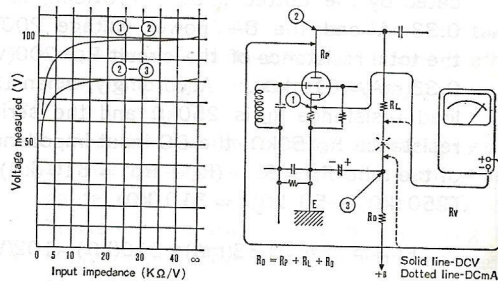

Fig. 3 Voltage measurement & input impedance.
5.1.3 When measuring a voltage, the combined resistance where the tester is connected decreases subject to the input impedance of the voltage range used. (Fig. 3)
The overall input impedance of a tester is indicated on the instrument. It is $10\text{k}\Omega$ per volt DCV for the **K-30DII**, and the input impedance of its 250V range is known to be $10(\text{k}\Omega/\text{V}) \times 250(\text{V}) = 2.5(\text{M}\Omega)$. In other words, the current the circuit supplies and the tester consumes is: $1(\text{V})/10(\text{k}\Omega) = 100(\mu\text{A})$ full scale. Therefore, as Fig. 3 shows, the less the current dissipation, the more accurate is the reading.